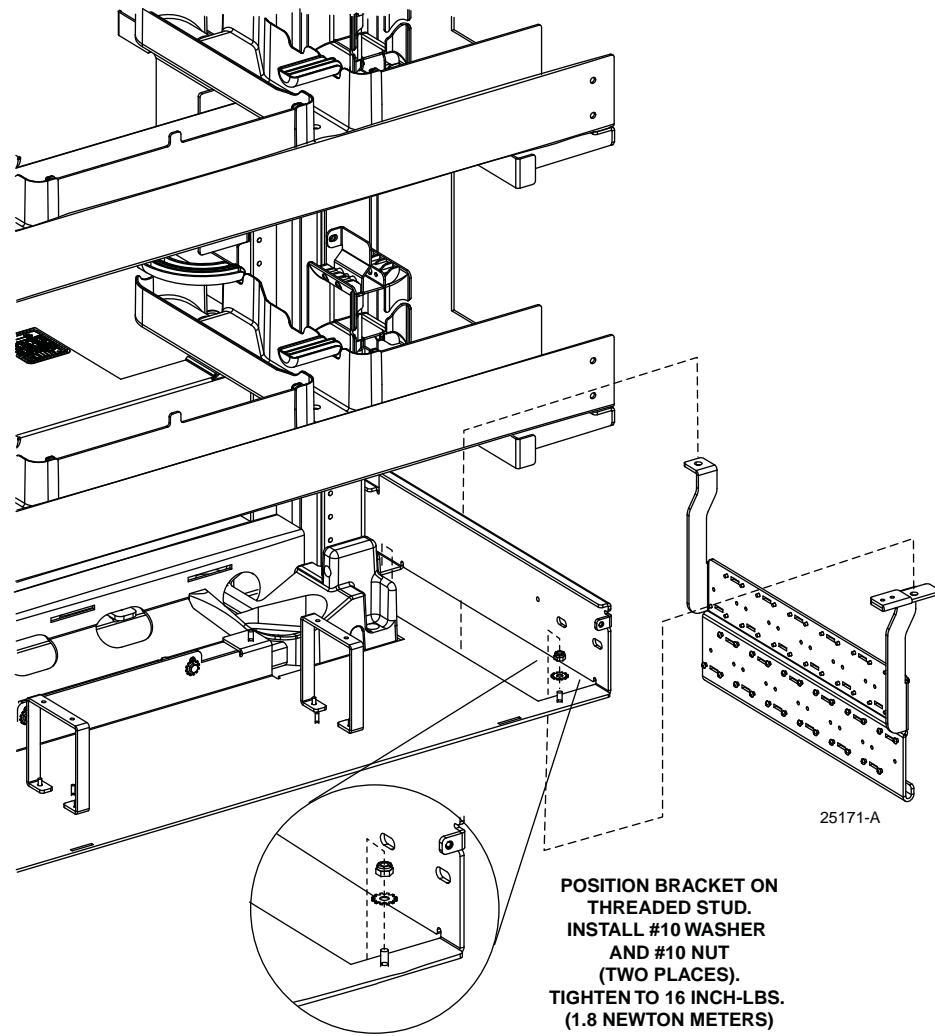

Figure 39. Installing Bracket in Frame
5. Place the cable bracket into the cable entry hole, and position the holes in the bracket on the threaded studs, as shown in Figure 39. Install a #10 washer and #10 nut on each threaded stud. Tighten to 16 inch lbs. (1.8 Newton meters).